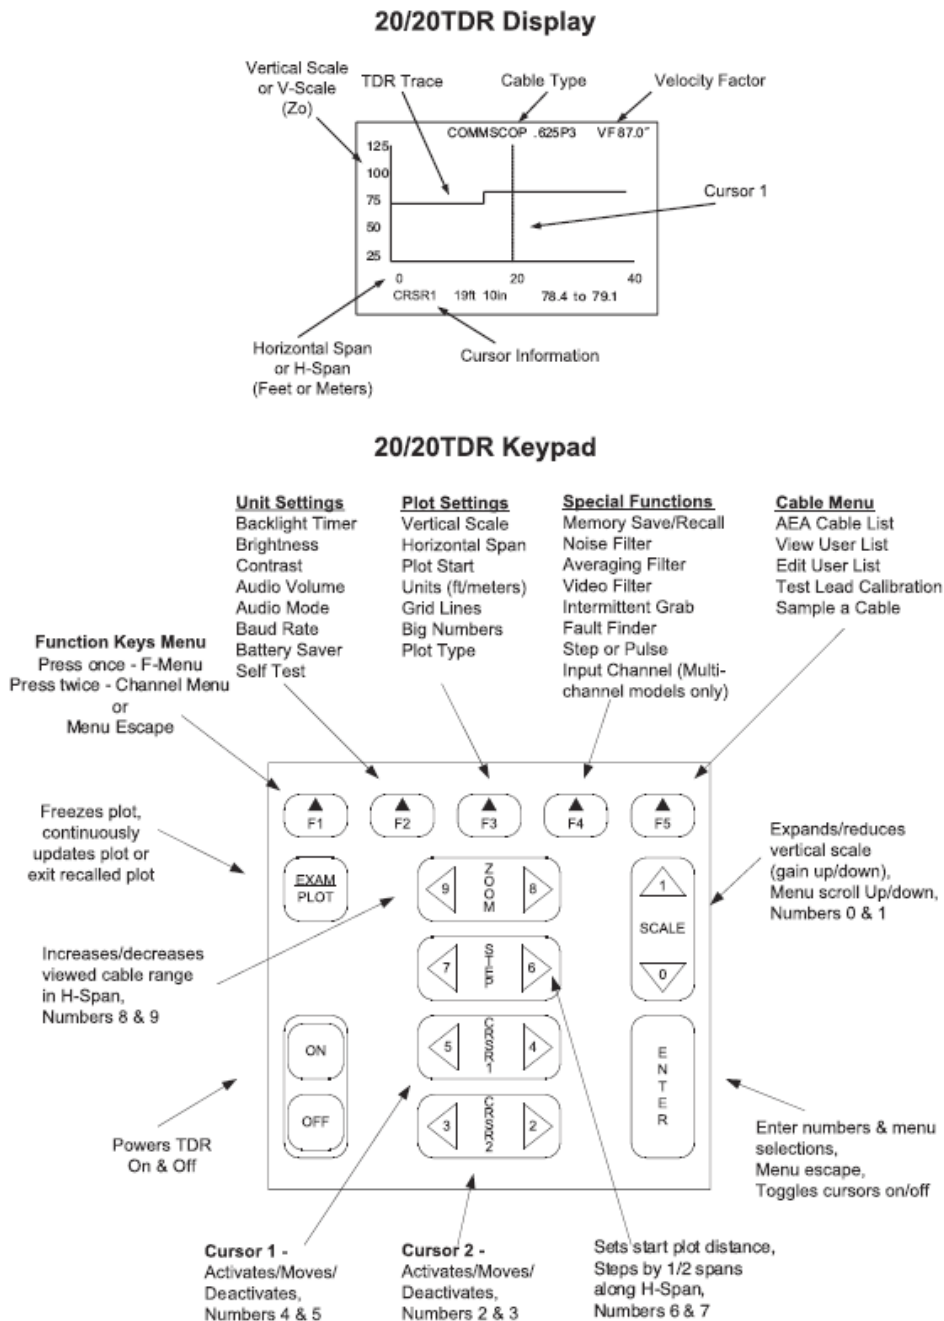

Figure 2 – Display and keypad functions
- Using the display and keypad overview in Figure 2 select the cable type to be used by pressing **F5**, scrolling to **->VIEW USER LIST** using the **SCALE** keys ( numbers: 1, 0 ). Enter the user list by pressing the left **ZOOM** key (number: 8)